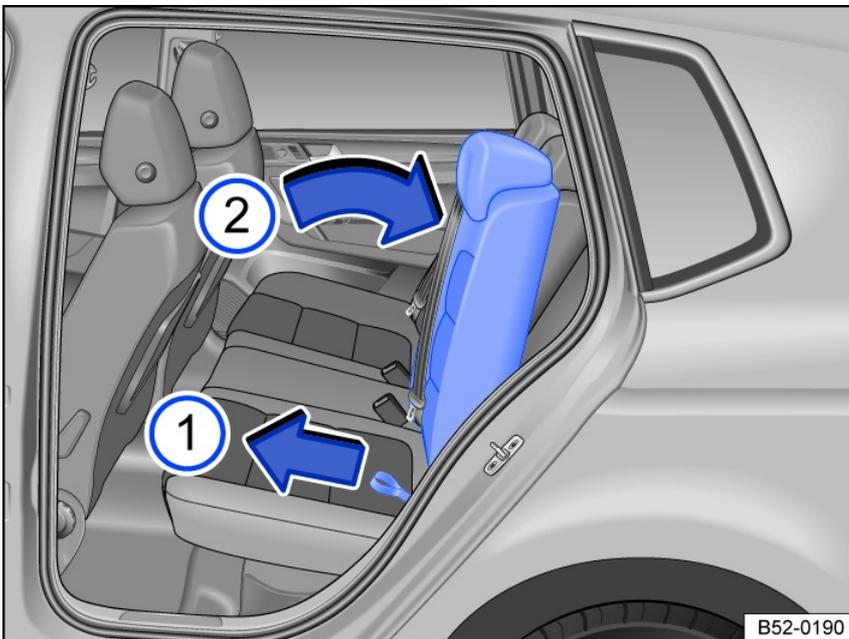

Fig. 81 Adjust the rear seat backrest.
- Press on the right or left rear seat backrest with your hand, while pulling its loop with the other hand *fig. 81*.
- Push the rear seat backrest against the spring force with your hand to move it to the desired position *fig. 81*.